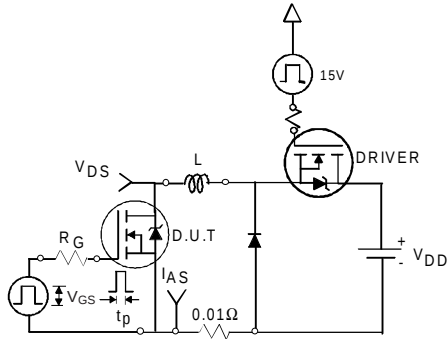

Fig 12a. Unclamped Inductive Test Circuit
- ④ Pulse width $\leq 400\mu s$; duty cycle $\leq 2\%$.
- ⑤ $C_{oss \text{ eff.}}$ is a fixed capacitance that gives the same charging time as C_{oss} while V_{DS} is rising from 0 to 80% V_{DSS} .
- ⑥ Calculated continuous current based on maximum allowable junction temperature. Package limitation current is 75A.
- ⑦ Limited by T_{Jmax} , see Fig.12a, 12b, 15, 16 for typical repetitive avalanche performance.
- ⑧ This value determined from sample failure population. 100% tested to this value in production.
3. Equation below based on circuit and waveforms shown in Figures 12a, 12b.